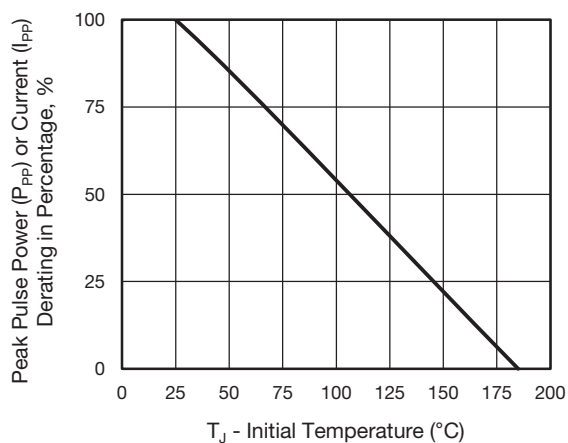
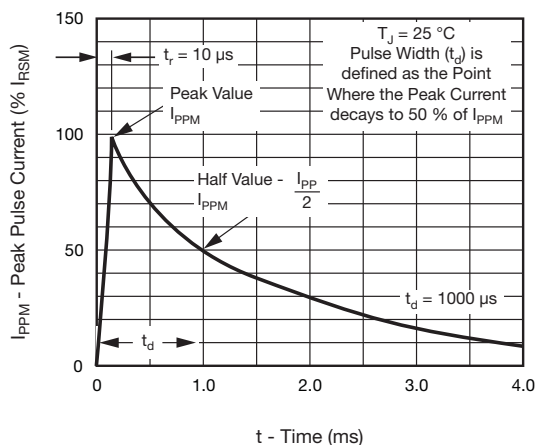

Fig. 2 - Pulse Power or Current vs. Initial Junction Temperature
Fig. 3 - Pulse Waveform
(1) Non-repetitive current pulse, per fig. 3 and derated above  $T_A = 25\text{ }^{\circ}\text{C}$  per fig. 2.
(2) Power dissipation mounted on infinite heat sink
(3) Power dissipation mounted on minimum recommended pad layout